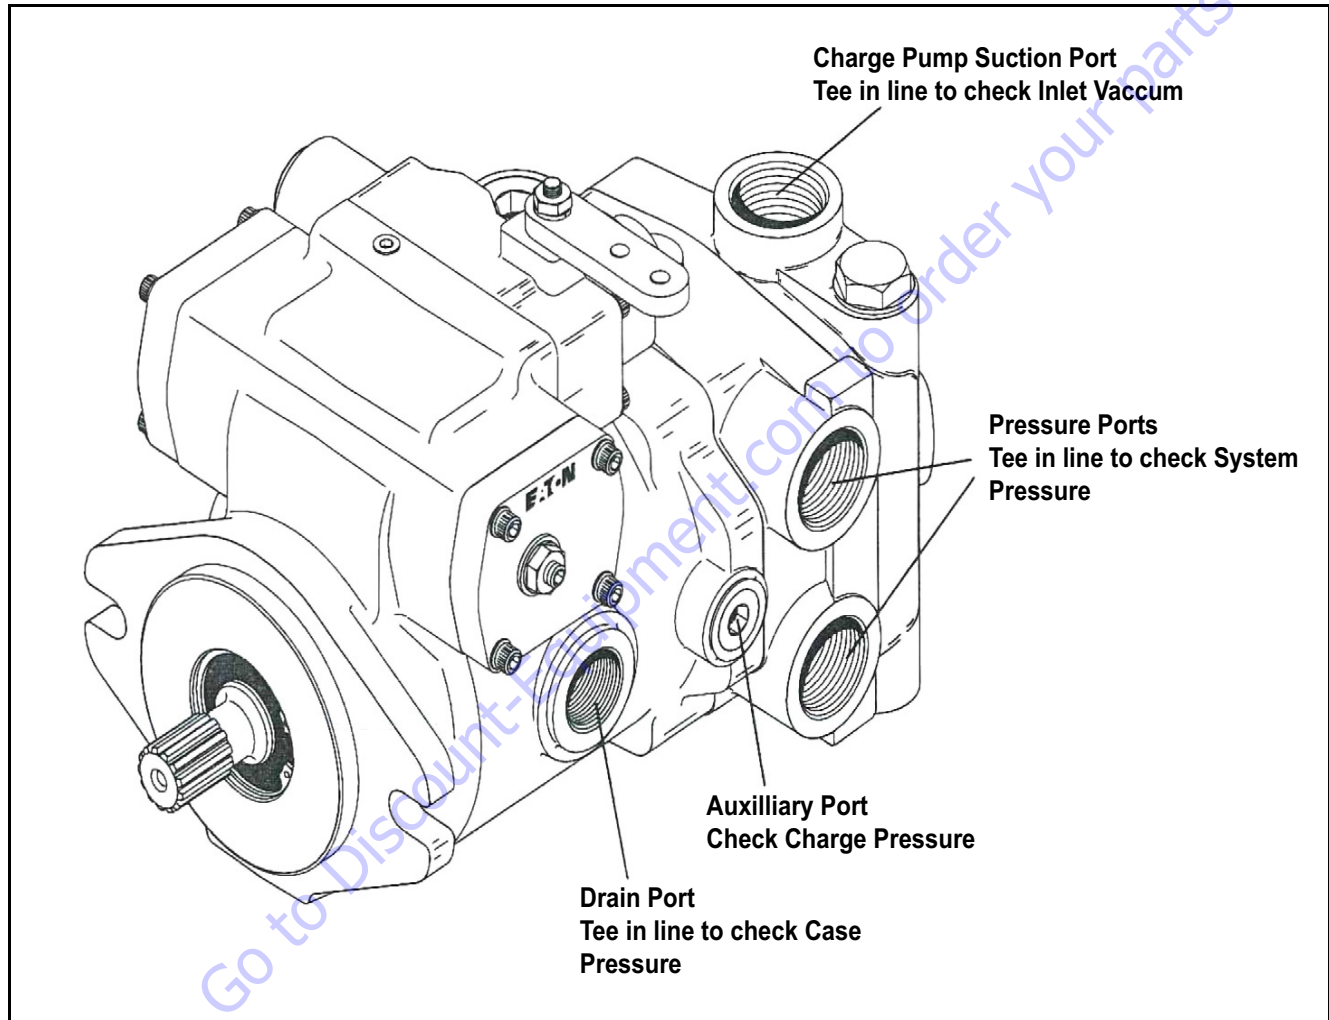

Figure 5-121. Gauge Locations
- a. See Figure 5-121. for location of pressure gauge installation
- a. See Figure 5-121. for location of charge pressure gauge installation